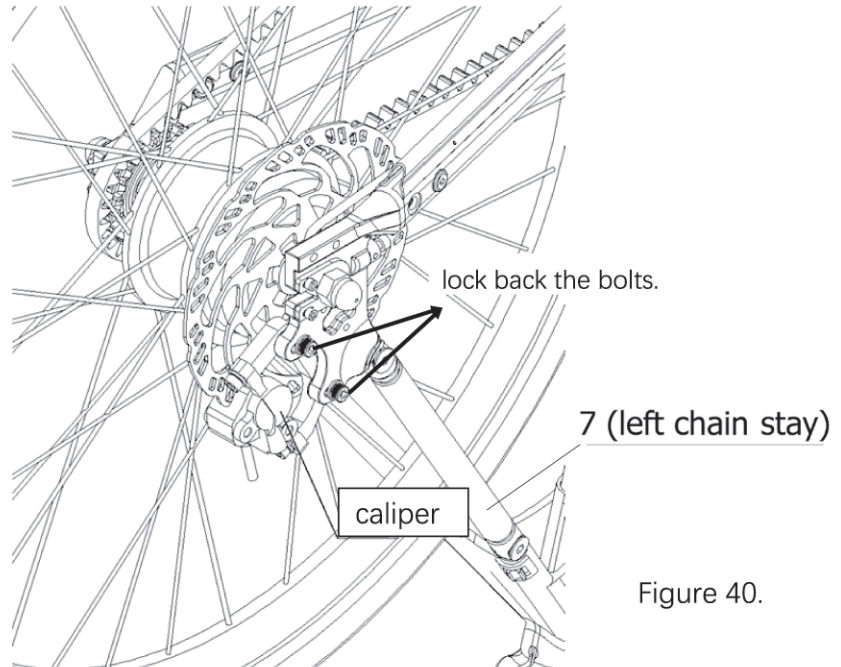

Figure 40.
d. Lock the brake caliper on Part 7 with a 5 mm Allen key (or T25 wrench), as shown in Figure 40.